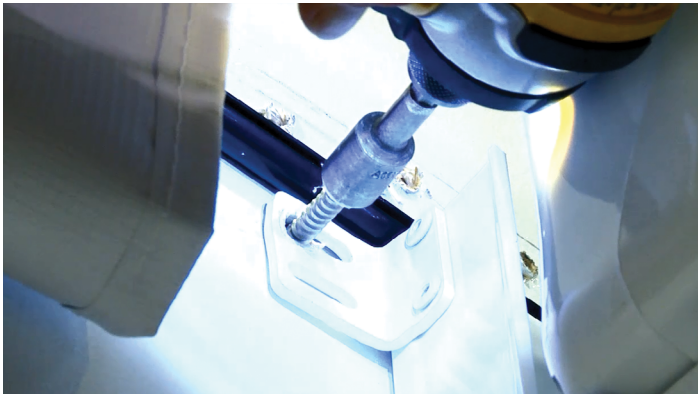

Fig.10
16. Secure the upper section of the drive side mount arm to the unit with 2 of the provided #14 x $1\frac{1}{4}$ " screws (**Fig.10**).